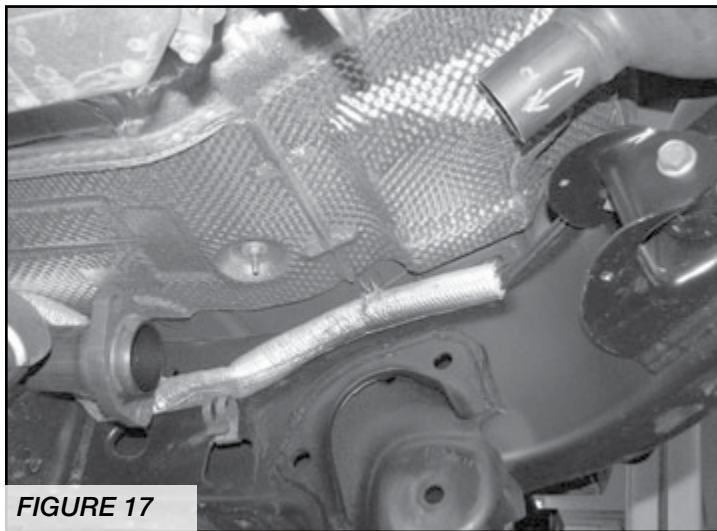

FIGURE 17
14. Locate the flange at rear of the pipe just cut. Remove mounting bolts at the flange and discard this section of Exhaust pipe. **SEE FIGURE 17.**